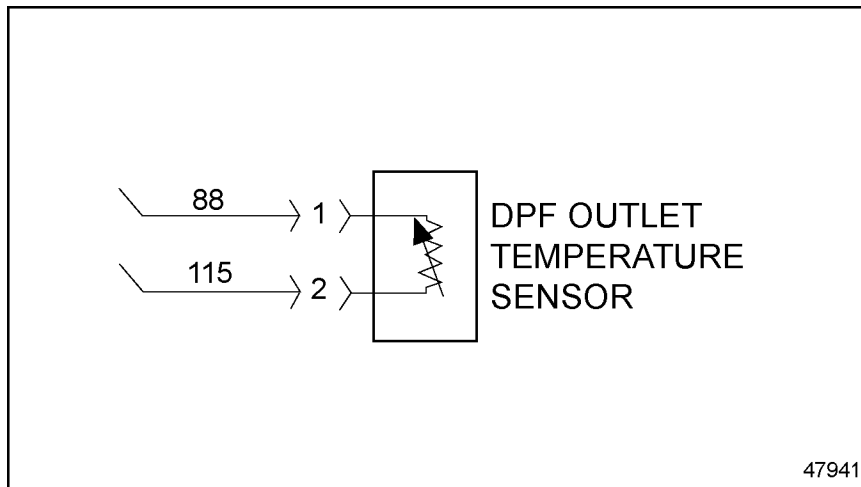

Figure 2 DPF Outlet Temperature Sensor
4. Disconnect DPF Outlet Temperature Sensor and inspect connector for damaged, bent, spread, or corroded pins. If the temperature sensor connector is OK, the connections upstream to the MCM (ATD harness 10-pin connector pin 7, 31-pin VIH connector pin 19, and the 120-pin MCM connector pin 115) must also be checked, see Figure 2.